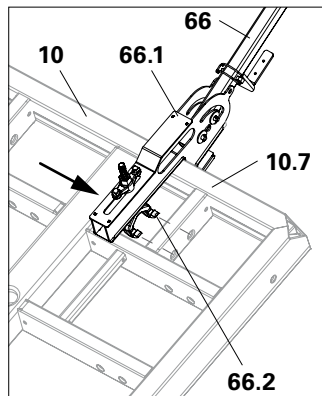

Fig. A7.25c
- Vertical strut (Fig. A7.25c + A7.25d)